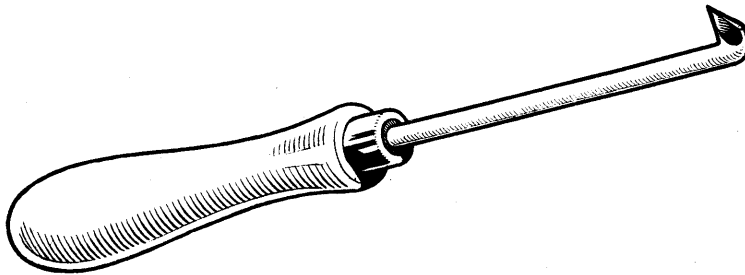

Fig. 48. Track groove cleaning tool, No. ADD (SR) 76
6. Drive in the track pin and lock in position with the lead plug or retainer. When the lead plugs are driven out of the track links a ring of lead is left in the locking groove. This must be removed before the new plug is inserted, otherwise the purpose of the groove is defeated and the plug will fall out. Fig. 48 shows this tool which has a hardened diamond point. Pushing the point into the lead and turning in the groove will remove the obstructing metal.